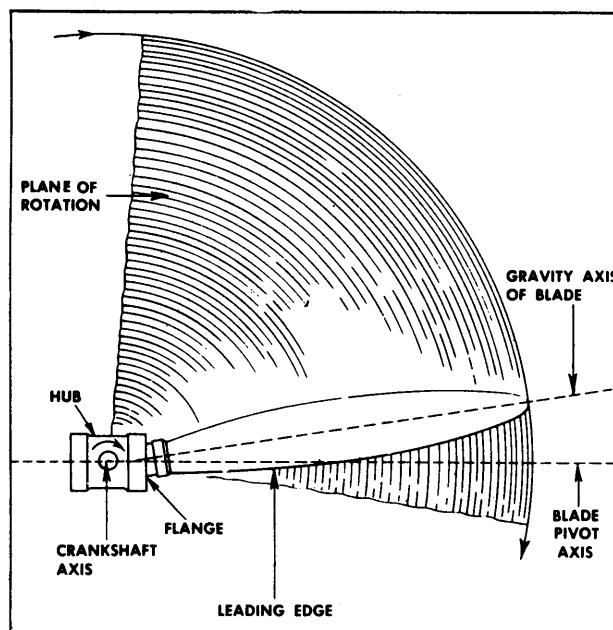

Figure 5. Rear View of Hub and Blade
(1) BLADE AND FLANGE. (See figure 5.)